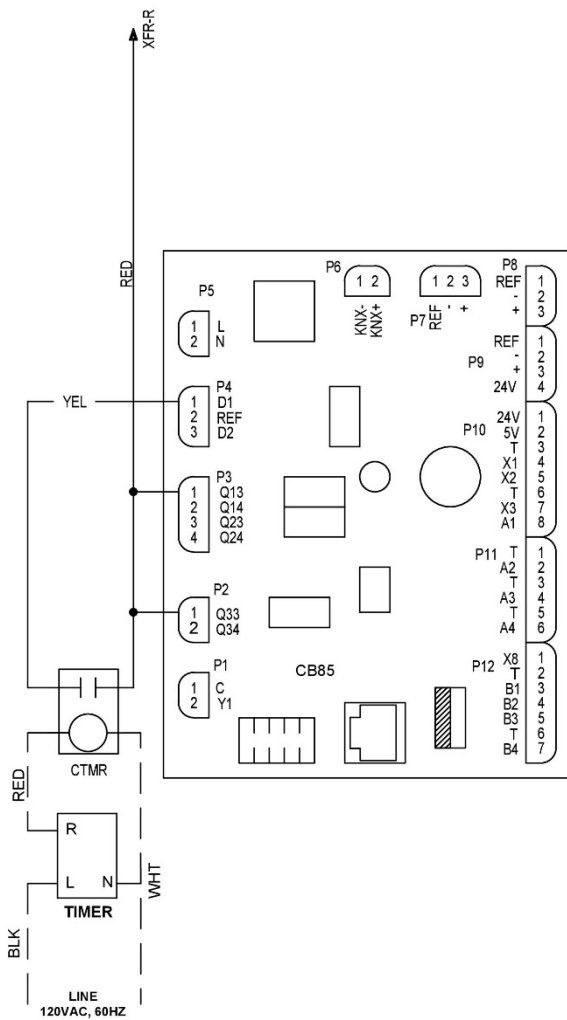

FIGURE 29 - Version 2 (120V Digital Timer Connection)
6. **FIGURE 29 - Version 2 (120V Digital Timer Connection).**